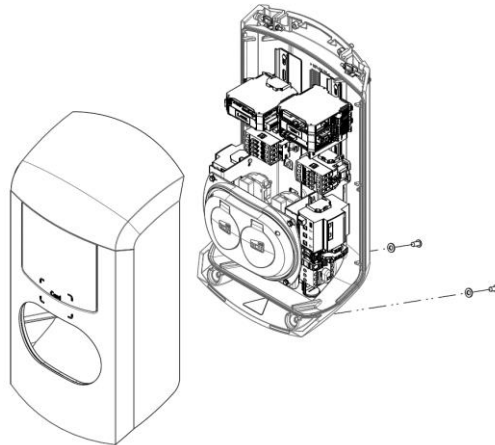

Figure 5: 3-phase model shown
14. Press the front cover shut and secure the M8 x 16 anti-theft bolts in the holes for this on the rear. Tighten them using the supplied pin key hexagon socket wrench (figure 5).